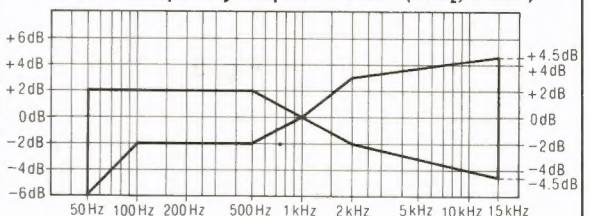

Fig. 14
8. Change test tape to CrO₂ reference blank test tape (QZZCRX), and record 1 kHz, 50 Hz, 100 Hz, 200 Hz, 500 Hz, 4 kHz, 8 kHz, 10 kHz and 15 kHz signals. Then, playback the signals and check if the curve is within the limits shown in the overall frequency response chart for CrO₂ tapes (fig. 14).
9. Place UNIT into metal tape mode and change test tape to metal reference blank test tape (QZZCRZ), and record 1 kHz, 50 Hz, 100 Hz, 200 Hz, 500 Hz, 4 kHz, 8 kHz, 10 kHz, 12.5 kHz and 15 kHz signals. Then, playback the signals and check if the curve is within the limits shown in the overall frequency response chart for metal tapes (fig. 14).